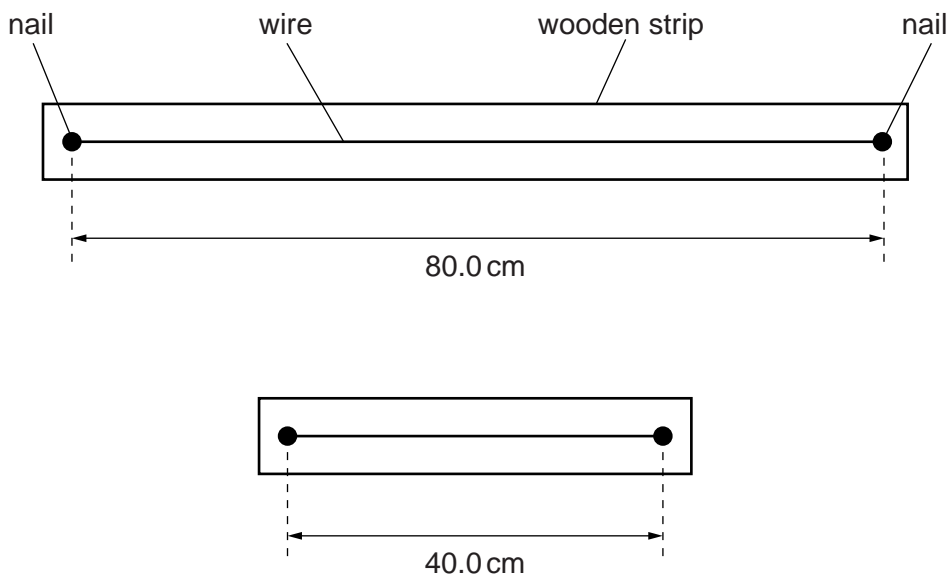

Fig. 1.2
- 2 The nails, wire and wooden strips should be assembled as shown in Fig. 1.2. The nails should be hammered into the wooden strips. The wires should be soldered to the nails. It should be possible to attach crocodile clips to each of the four nails.